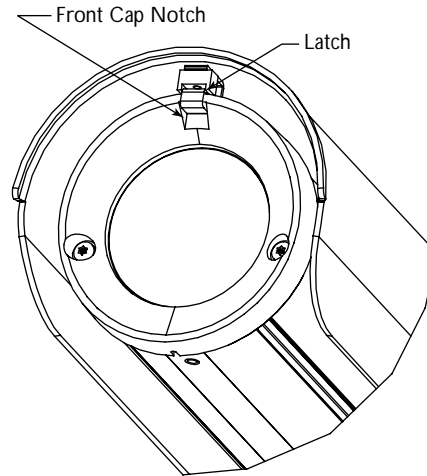

Figure 3: Final Assembly
1. Rotate the sunshield over the housing. Allow the latch to engage the notch in the front cap. **See Figure 3.**